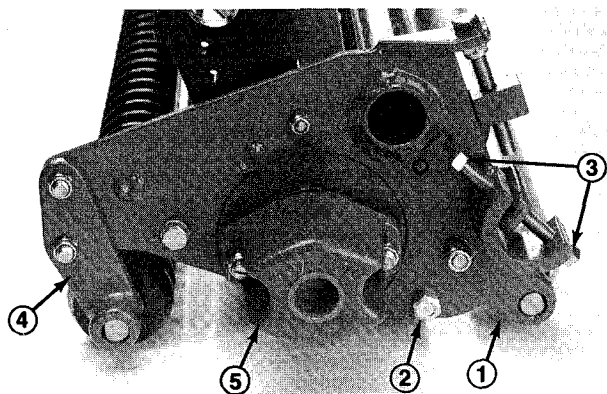

Figure 10
1. Remove capscrew and nut anchoring the rear roller height-of-cut bracket to the side plate on both ends of the cutting unit (Fig. 10).
4. Remove the bedbar mounting bolts from each end of the cutting unit (Fig. 10). Then loosen the bedknife adjusting screws at each end of the cutting unit (Fig. 10). The bedknife assembly can then be removed by rotating it away from the reel.
1. Remove the locknuts securing the front roller brackets to the sideplates at both ends of the cutting unit (Fig. 10).
1. Remove the mounting nuts from the counterbalance end cap and remove end cap from the mounting studs (Fig. 10).